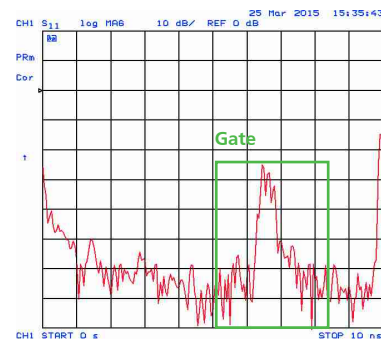

figure 2
- A gate (figure 2) with defined start and end points is positioned on the DUT component (e.g. BNC connector, cable, etc.) which has to be measured.